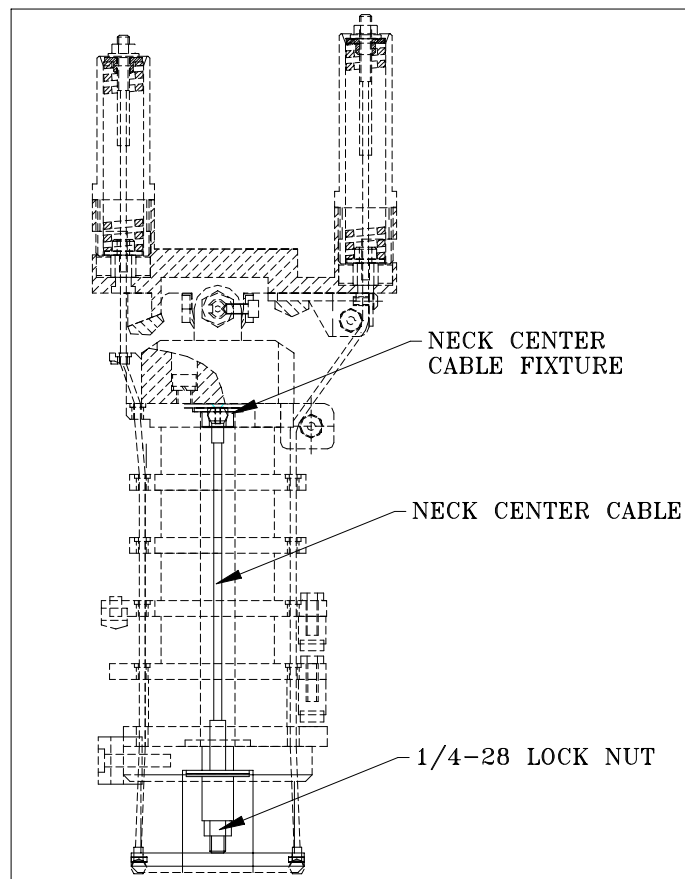

Figure 5.8- Center Cable Assembly
8. Place the Neck Center Cable Fixture (T1NKM120) into the counterbored hole on the Neck Top Plate (T1NKM116). Pass the threaded end of the Neck Center Cable through the center of the Bonded Neck Assembly (T1NKM100) from the top of the neck. Place in the following order on the threaded side of the Neck Center Cable, a Cable Washer (T1NKM029), a flat steel washer, and a nylon spacer (Note: The threaded end of the Neck Center Cable is accessible from the bottom of the lower neck load cell.). Secure the center cable assembly with a 1/4-28 Lock Nut {7/16 socket} by holding the top end of the cable with a flat head screwdriver and tightening the nut 1/2 turn past finger tight. Place the Cable Cover (T1NKM124) on the Neck Top Plate and secure in place using two #2-56 x 1/4" FHSCS {0.050}. The completed assembly is shown in **Figure 5.8**.